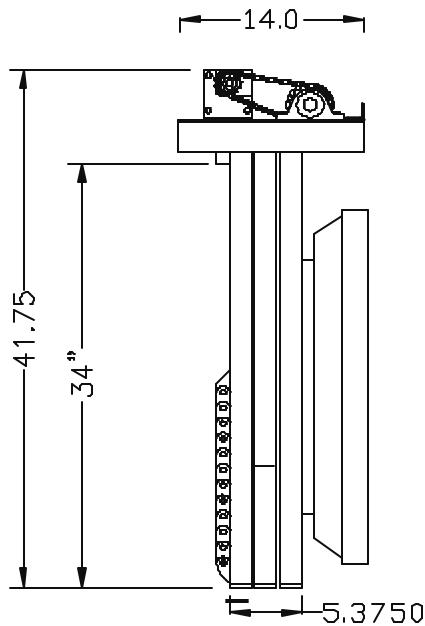

Figure 1.
- The support structure should hold at least four (4) times the weight of the lift and plasma screen combined. **Always follow the local building codes.**
- **Vertical Clearance:** Once the location of the plasma lift is determined, please verify that there is sufficient space above the false ceiling to accommodate the lift, the screen, the optional ceiling closure, and that nothing will interfere with their operation. The lift needs a minimum clearance of 41.75" (106.04cm) of vertical height in the ceiling (supporting structure of the lift and spring loaded ceiling closure system not included).- see figure 1.
Depth of the lift: 14" Deep (top frame) x 5.375" Deep (bottom frame)- 35.56 cm x 13.65 cm- see Figure 1. Note: The ceiling opening size is based on the bottom frame of the lift (only part that travels through the ceiling opening). To determine the depth of the ceiling opening, you will need to add the depth of the plasma screen and the depth of the screen's mounting bracket. Important: If the plasma screen needs to be tilted, this will also increase the overall depth of the ceiling opening.
Important note for concrete ceiling installations: when attaching the lift to a flat ceiling, SVS suggests two (2) pieces of #P1000T Unistrut (approx. 10' long -3.04 m), to be installed on the ceiling first. Proper spacing between the 2 pieces will be based on the distance between the top four (4) mounting holes of the lift (as shown in Figure 1).